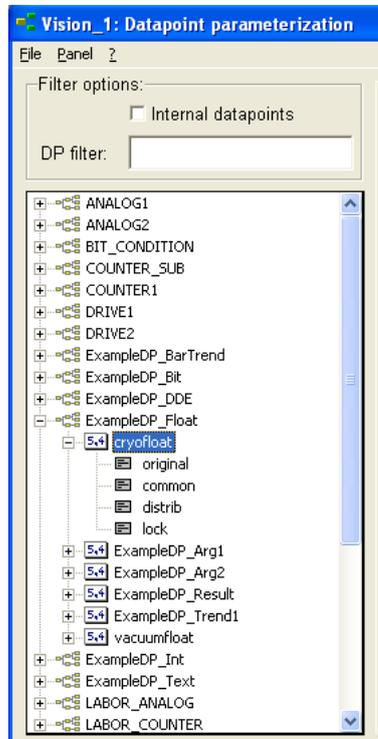

Figure 6 - PARA module: new DPE
- (1) Create a new DPE (Figure 6) using the PARA module (i.e.: float number)